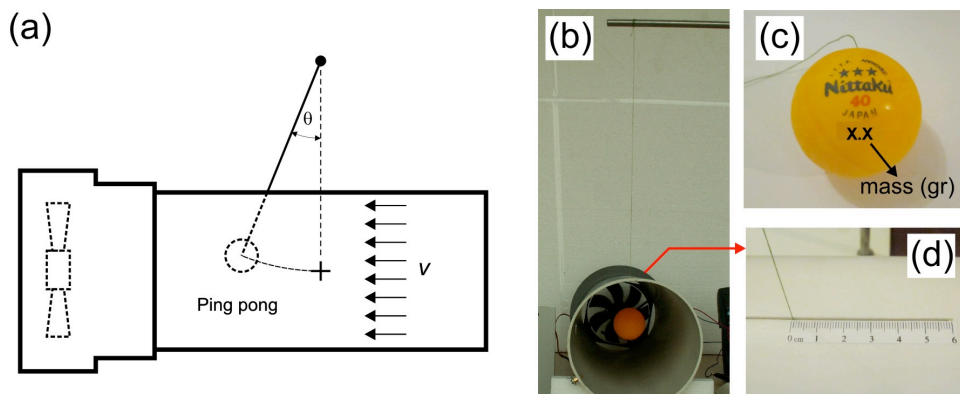

Figure 6. Ping pong ball anemometer experiment.
Measuring wind speed is a primary metrology activity in wind power engineering. We will investigate a very simple method to measure wind speed using a ping pong ball pendulum as shown in Figure 6.
where C_D is the drag coefficient of the object, ρ_A is the density of the fluid (air), A_B is the cross section of the ping pong ball, v is the velocity of the ball relative to the fluid and m is the power factor. Mass of the ping pong ball m_B (in gram) is written on the ball as shown Figure 6(c). Please refer to **Constants & Data** in. pg. 2 for other data.
- (a) Insert the pendulum thread into the slot with the imprinted ruler as shown in Figure 6(d). Position the ping pong ball at the center of the tunnel. The imprinted ruler helps you to calculate the deflection angle θ